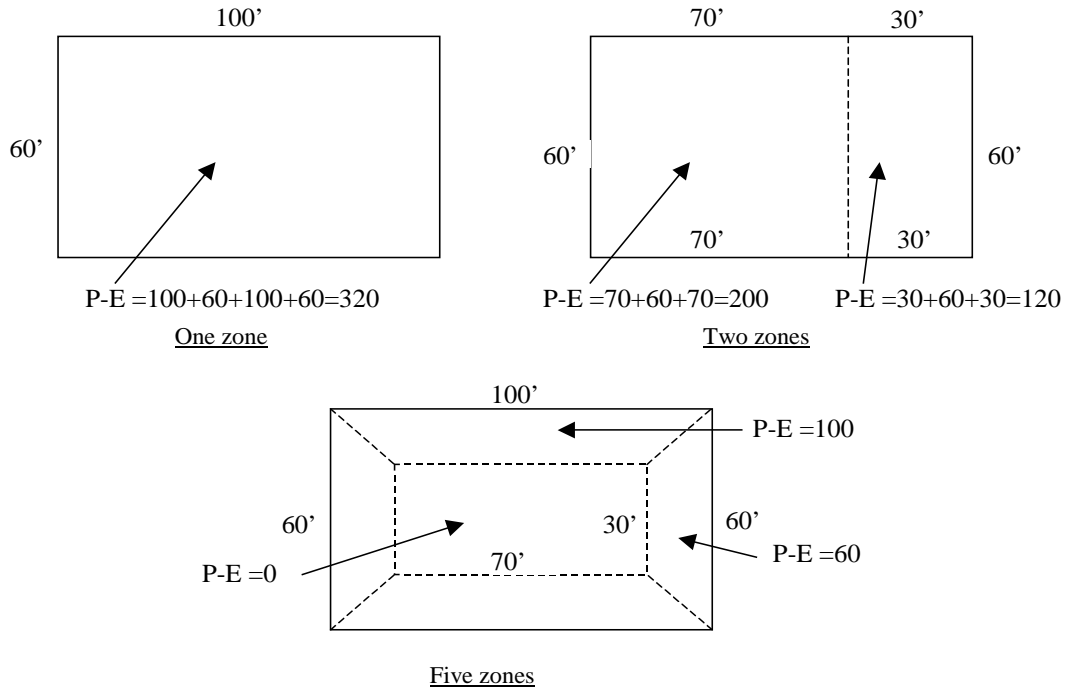
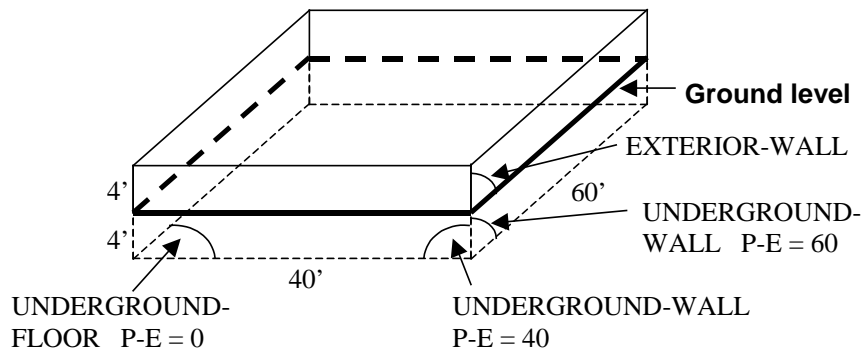

Figure 21 Exposed perimeter calculation for slab-on-grade examples. P-E corresponds to the PERIM-EXPOSED keyword.
Figure 22 Exposed perimeter calculation for basement. P-E corresponds to the PERIM-EXPOSED keyword.
2. Determine PERIM-EXPOSED, the length (ft or m) of the surface's perimeter that is exposed to the outside air. Figure 21 and Figure 22 show values of PERIM-EXPOSED for example foundation